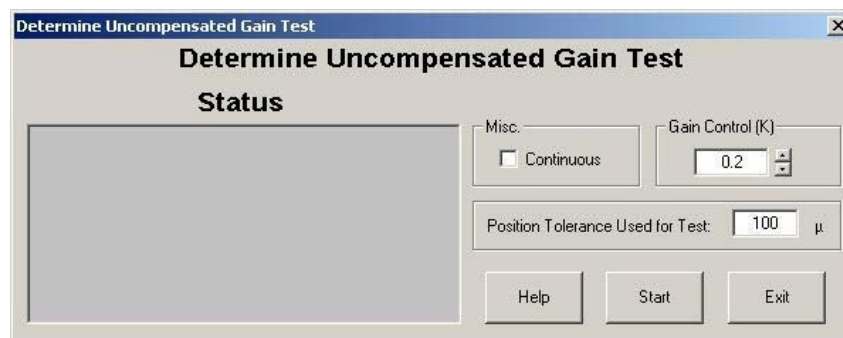
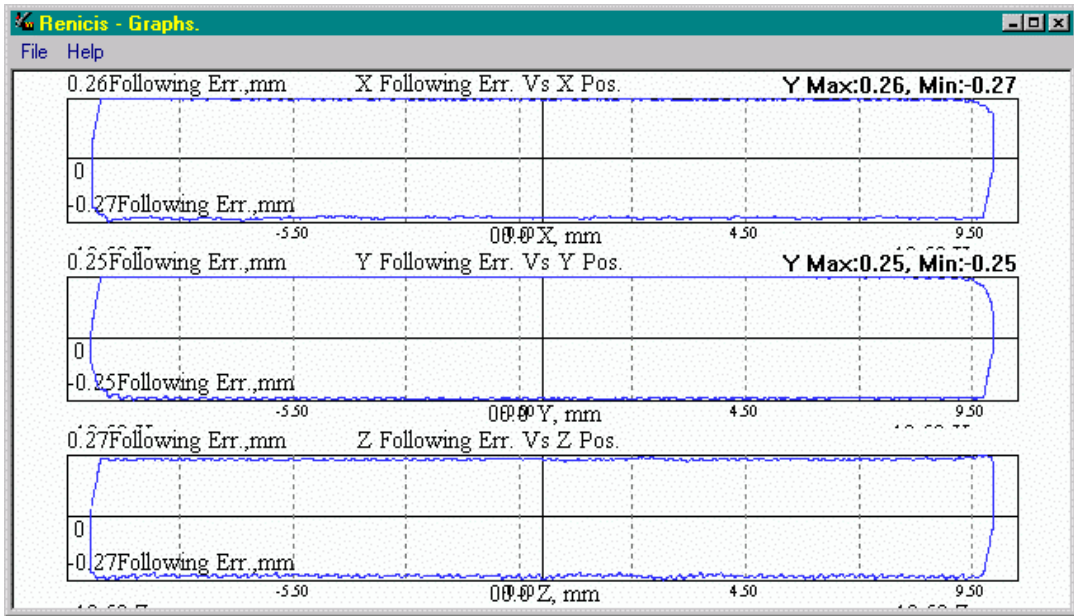

Figure 19
Figure 20
2. Follow the instructions given until the test dialog is displayed, refer to figure 19. Ensure that the default value of 0.2 is indicated, then click on the “Start” button. The machine should move in a forward and reverse cycle in all three axes. The following error present during the move is displayed in graphical format. Examine the graphs produced (refer to figure 20).
3. If the machine runs smoothly and no periodic oscillations are apparent (refer to figure 20). The uncompensated gain can be increased (either directly in the edit box, or by clicking on the upper 'spin' button to the right of the edit box) by approximately 10%, now referred to as  $K_{P1}$ , and the test repeated by clicking on the “Start” button again.